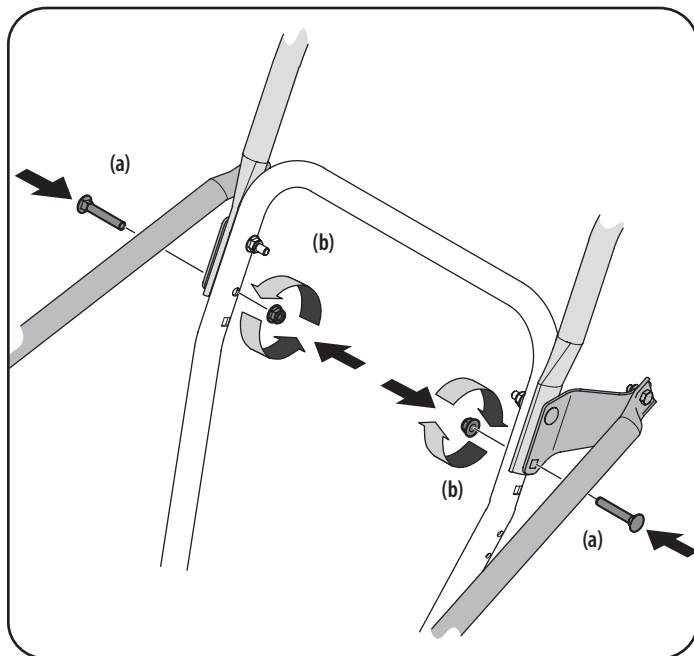

Figure 4
4. Pivot the upper handle into position and using the carriage screws (a) and flange lock nuts (b) removed in step 1, secure the handle in place. See Figure 4.